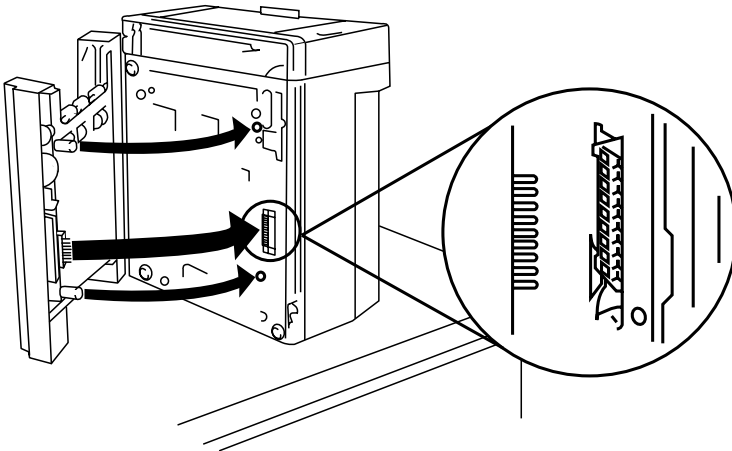

Fig. 4.4 *Position Tray Feeder under Printer*
4. First, align the left side of the feeder tray with the bottom of the printer (if you have the feeder in the correct position, the left side is the side without the printed circuit board). Next, swing the right side of the feeder into position. Be careful to align the printed circuit board on the feeder properly with the bottom of the printer. Attach the printed circuit board to the connector in the printer by fitting the two projections at the top and bottom of the printed circuit board into the corresponding holes in the printer (fig. 4.4).